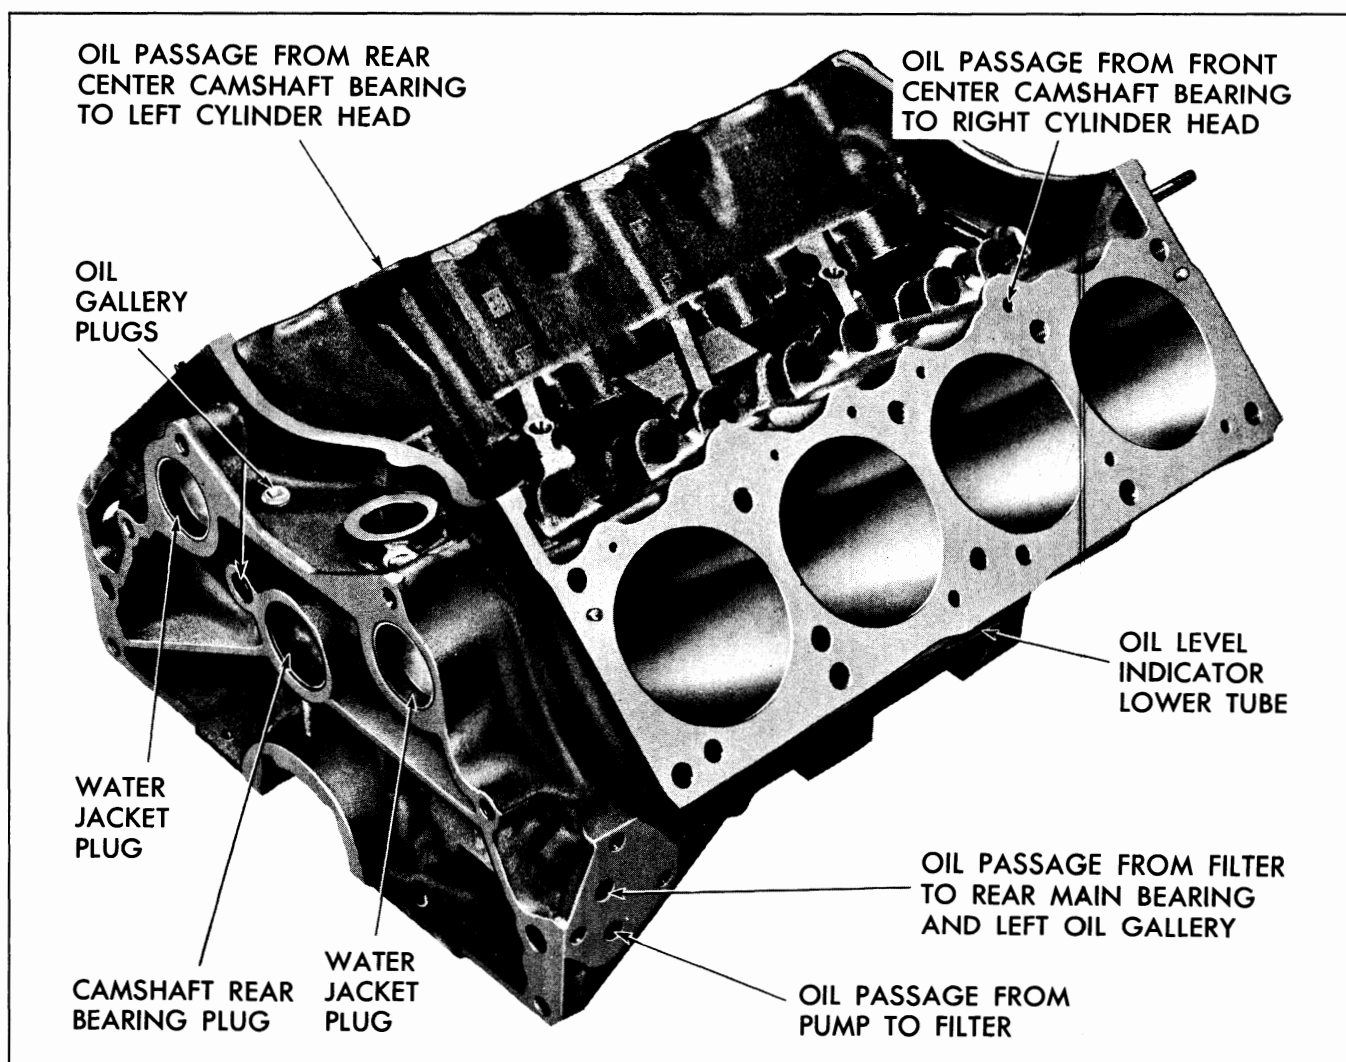

Fig. 6-76 Cylinder Block—View from Right Rear
b. Check passage from filter outlet to rear main bearing by inserting wire in oil filter outlet passage and using pen light to see that wire is visible in passage to rear main bearing (Fig. 6-76).
f. Check oil passages to right bank lifter bosses. Use rubber hose to blow smoke in passage from front main bearing to right main oil gallery while observing for smoke passing out passages from right gallery to lifter bosses (Fig. 6-76).
g. Visually check passage from rear center camshaft bearing to left cylinder head and passage from front center camshaft bearing to right cylinder head (Fig. 6-76).